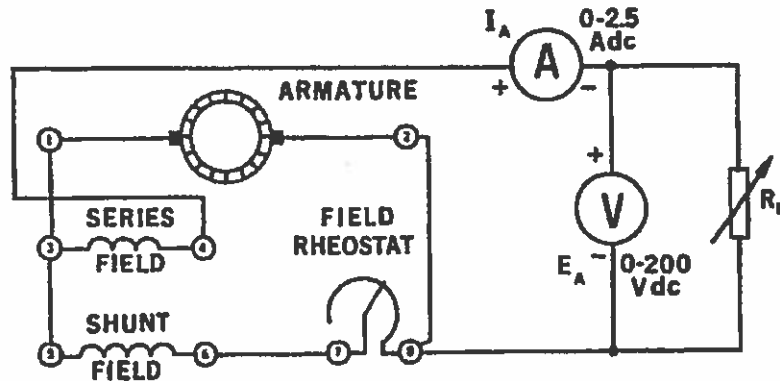

Figure 29-2.
- ☒ 3. a. Using your DC Motor/Generator, DC Voltmeter/Ammeter and Resistive Load, connect the circuit shown in Figure 29-2.